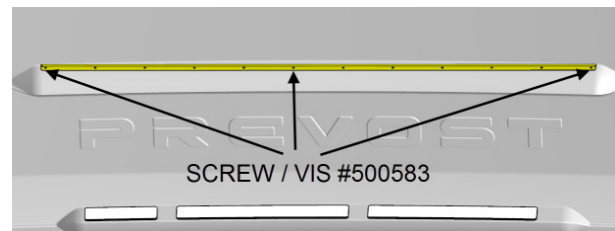

FIGURE 30
- Preinstall the drip edge using three (3) screw #6x1/2 (#500583), see FIGURE 30.